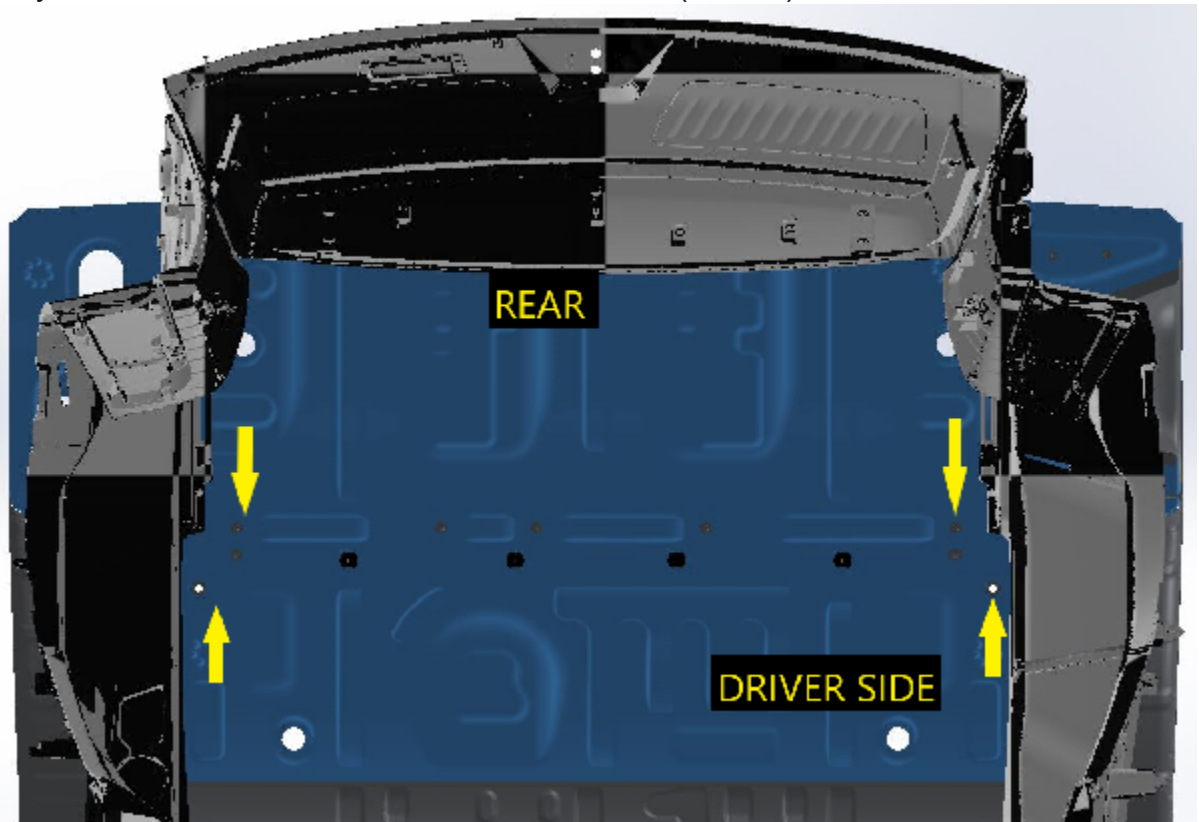
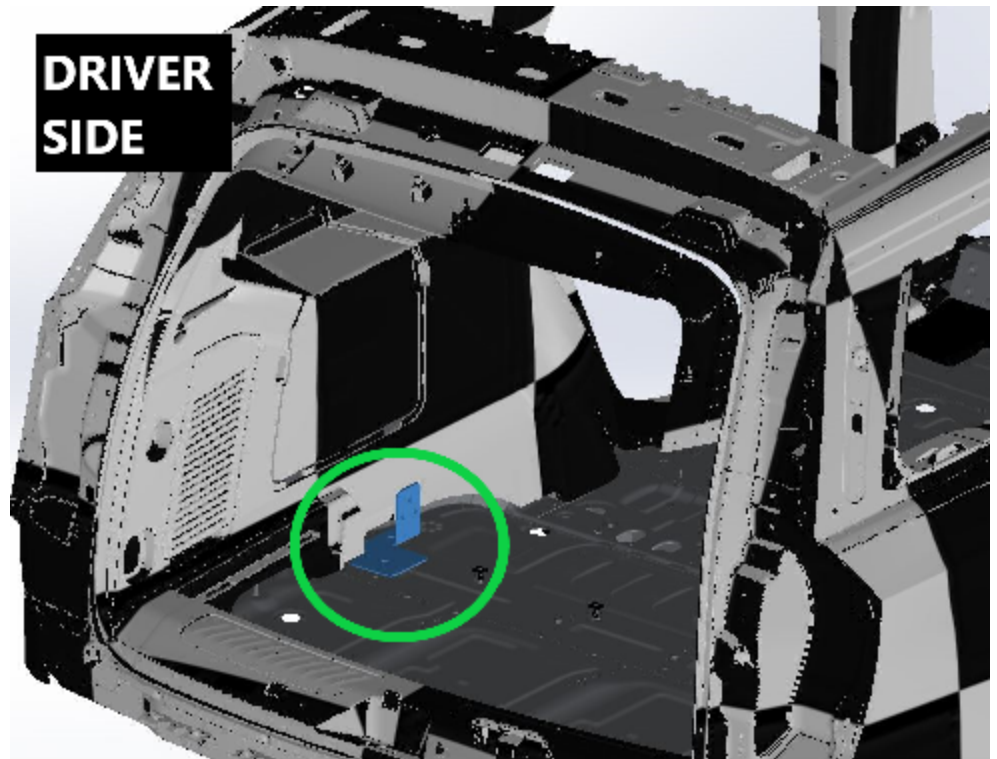

Fig.2
Fig.3
2. Install driver & passenger lower brackets (Item# 3 & 4) using hardware provided. You will have to cut 2" X 0.5" on vinyl cover for brackets to stick out for kicker rod (Item#5) to be installed later. (Fig.2 & Fig.3)